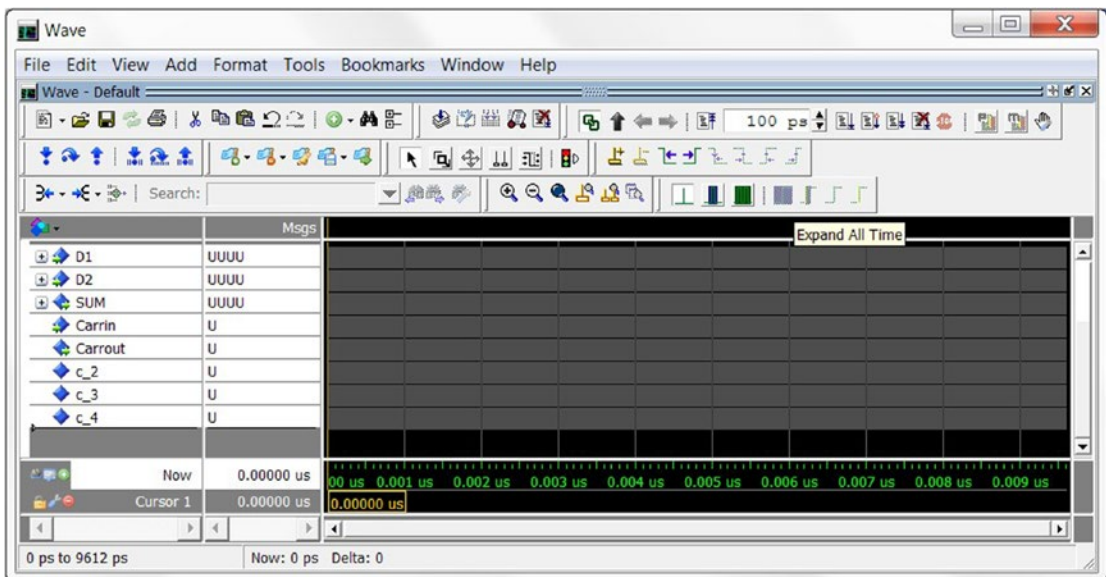

Figure 8-22. 4-bit adder simulation wave windows
7. Type `add wave -position insertpoint sim:/four_bit_adder/*` in the transcript box. The wave windows should show as Figure 8-22.